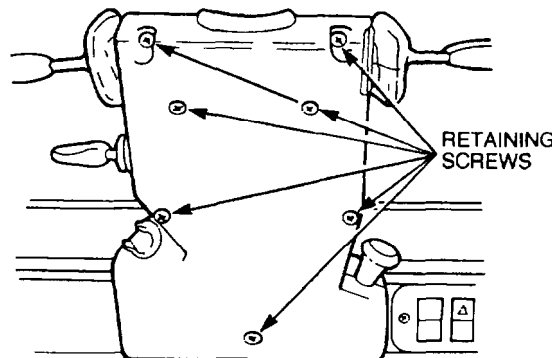

Figure 164 Steering Column Shroud Removal
- e. Remove the seven screws securing the steering column shroud (Figure 164).